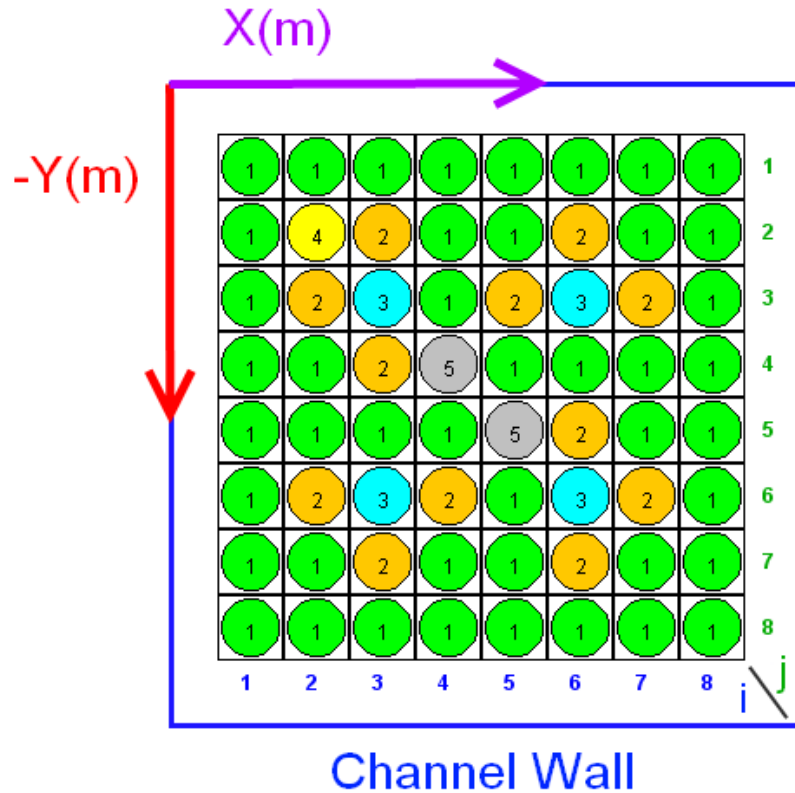

Figure 1: Rod Groups with Water Rods Shown as gray circles with a 5 in the center.
Now that the water rod properties have been configured, we need to specify the location of the water rods. In this case, SNAP needs to know the X and Y location of the center of the rod. The origin of the coordinate system used to locate the center of the rods is at the upper left hand corner of the inside of the channel box as shown in Figure 1. The values of X and Y are specified in meters and the X coordinate for the center of the water rod will be a positive value, while the Y coordinate will be a negative value.
Along with the location of the center of the rod, the specific rod slots that are occupied by the water rods need to be identified. Rod slots are identified by an (i,j) integer pair, where i indicates the location along x , and j the location along y . We will be assigning location $(4,4)$ and $(5,5)$ as water rods as shown in Figure 1 above.
The 'X Axis' and 'Y Axis' values are the rod identification per Figure 1. For example (1,1) is the upper left hand corner rod and (8,8) is the lower right hand corner rod. This water rod is located at (4,4). If the water rod was large enough to take up the space of multiple fuel rods, we would need to add the number of fuel rod slot occupied and set the grid location of each water rod in the 'X Axis' and 'Y Axis' values in the list.
7.  xpand 'Rod Locations' in the  tab and verify that the location of the water rods matches Figure 1.